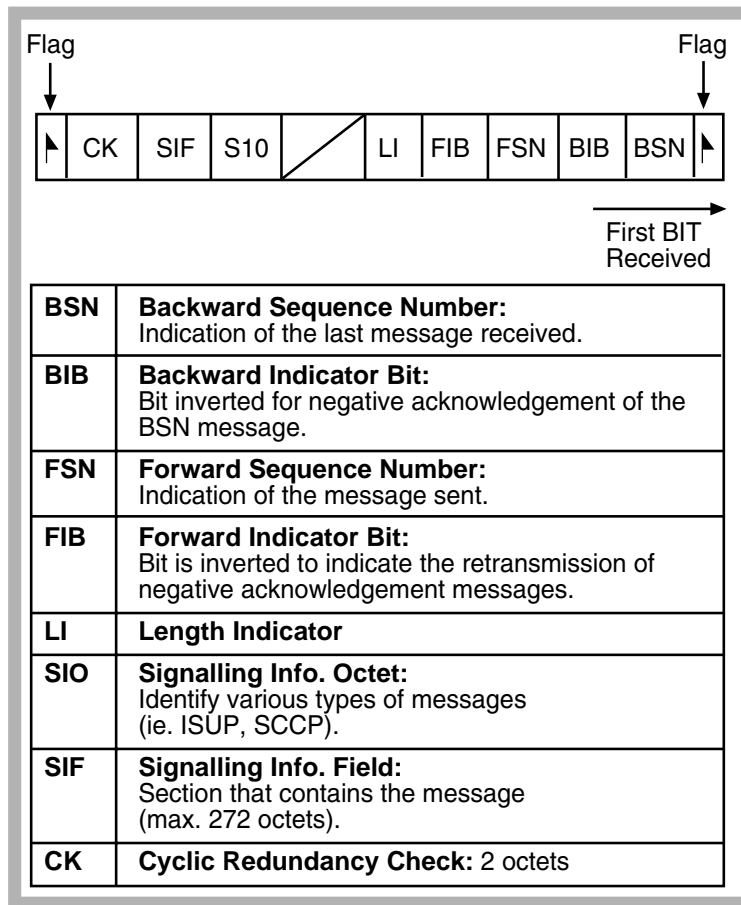

Figure 236 MSU Message Structure
- *Message Signaling Unit (MSU)* - The MSUs are the units used by the ISUP, TUP, and TCAP messages. They provide the structure to house the messages. A description of each field is shown in Figure 236.